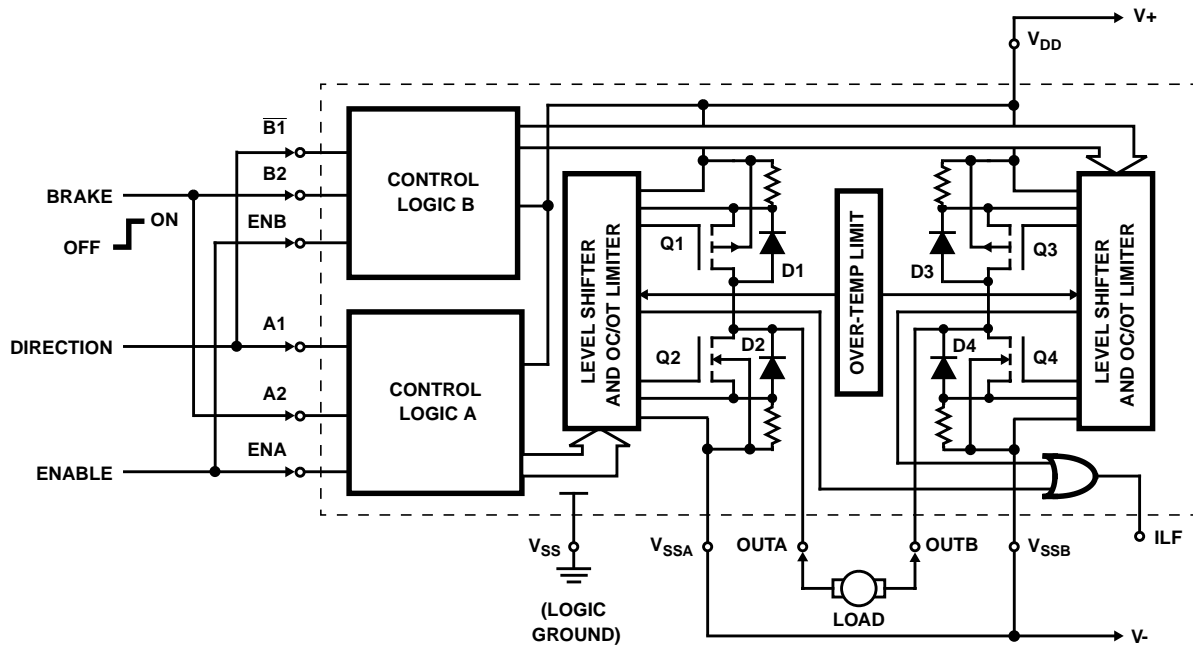

FIGURE 1. TYPICAL MOTOR CONTROL APPLICATION CIRCUIT SHOWING DIRECTIONAL AND BRAKING CONTROL
- Refer to the Truth Table and the  $V_{EN}$  to  $V_{OUT}$  Switching Waveforms. Current,  $I_O$  refers to  $I_{OUTA}$  or  $I_{OUTB}$  as the Output Load current. Note that ENA controls OUTA and ENB controls OUTB. Each Half H-Switch has independent control from the respective A1, A2, ENA or B1, B2, ENB inputs. Refer to the Terminal Information Table for external pin connections to establish mode control switching. Figure 1 shows a typical application circuit used to control a DC Motor.
The HIP4020 is designed to detect load current feedback from sampling resistors of low value in the source connections of the output drivers to  $V_{DD}$ ,  $V_{SSA}$  and  $V_{SSB}$  (See Figure 1). When the sink or source current at OUTA or OUTB exceeds the preset OC (Over-Current) limiting value of 550mA typical, the current is held at the limiting value. If the OT (Over-Temperature) Shut-down Protection limit is exceeded, temperature sensing BiMOS circuits limit the junction temperature to 150°C typical.
The circuit of Figure 1 shows the Full H-Switch in a small motor-drive application. The left (A) and right (B) H-Switch's are controlled from the A and B inputs via the A and B CONTROL LOGIC to the MOS output transistors Q1, Q2, Q3 and Q4. The circuit is intended to safely start, stop, and control rotational direction for a motor requiring no more than 0.5A of supply current. The stop function includes a Dynamic Braking feature.